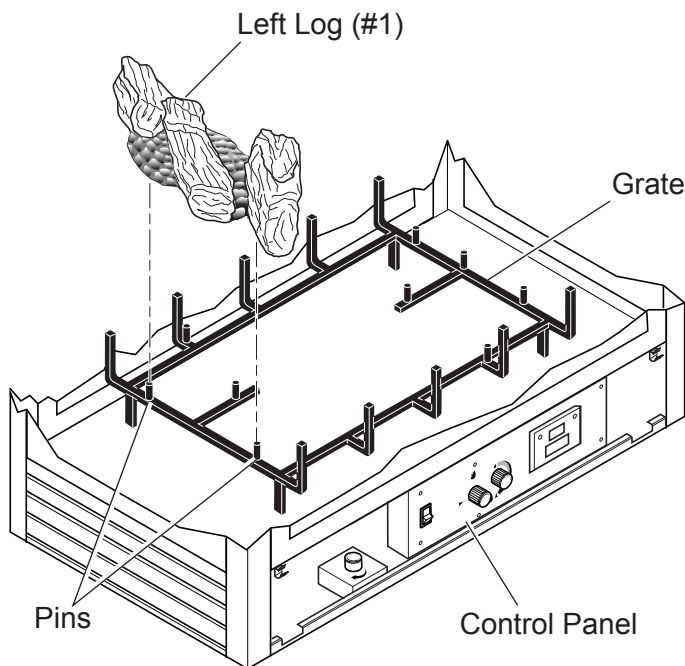

Figure 44 - Installing Left Log (#1)
3. Place left log (#1) on left end of grate. Line up two (2) pin holes in bottom of log with two (2) pins on grate. Log #1 will always be to the left of the control panel. *See Figure 44.*